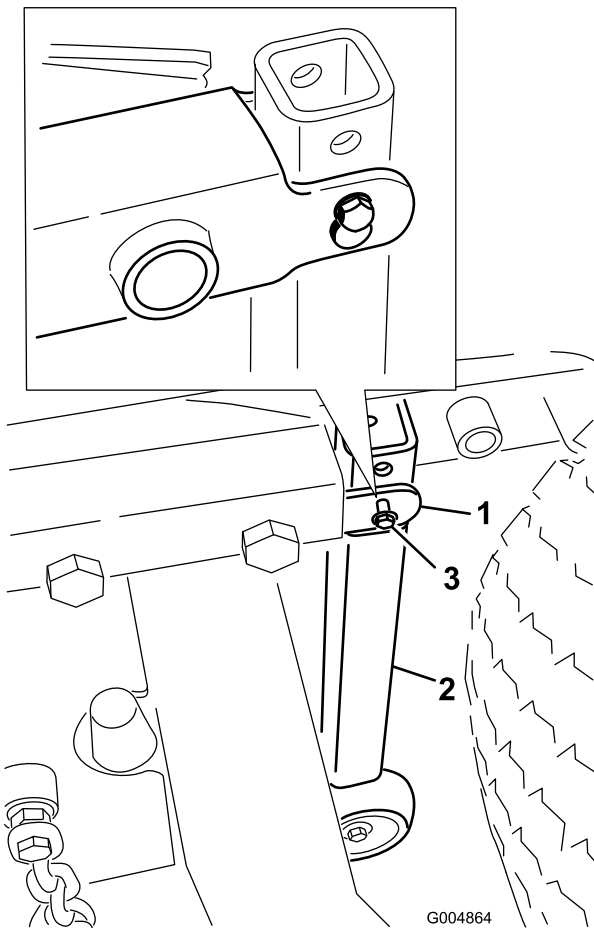

Figure 8
5. Remove the clevis pins and a 5/16" self-tapping screw pin retainers securing the vertical tube support assemblies to the rear of the deck frame (Figure 8).